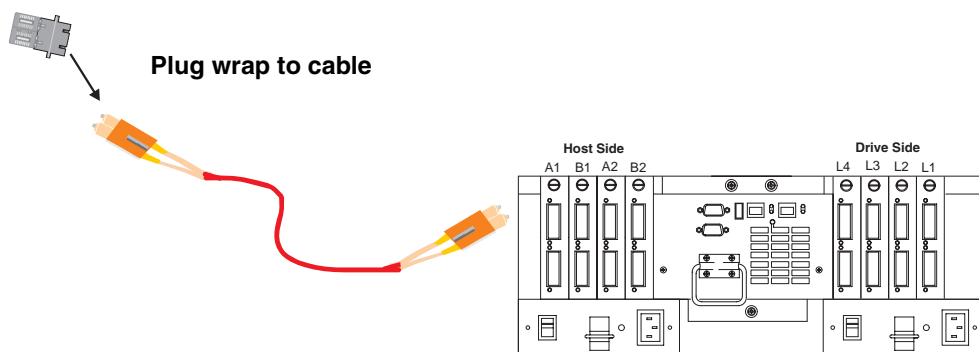

Figure 19. Install wrap plug
3. Insert the wrap plug from your kit into the female-to-female converter. See Figure 19.